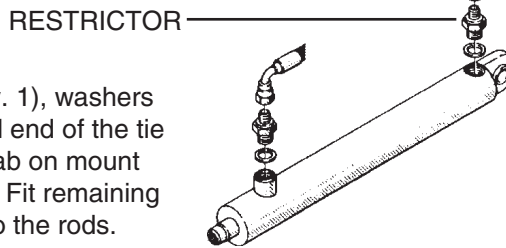

Fig.5
- 1b. HZ BOOM - Attach tilt cylinders to center frame using pins and cotter pins. Remove plugs from cylinder ports and manually extend cylinders to their full extension. Install o-ring washers and restrictor fittings in both ports on hydraulic cylinders. The restrictor with the small hole is fitted to the fixed (base) end of the hydraulic cylinder. (Refer to fig. 5)
8. Install o-ring washers and restrictor fittings in both ports of hydraulic fold cylinders. Restrictor with the small hole goes in the fixed (base) end of the hydraulic cylinder. (Fig. 5)